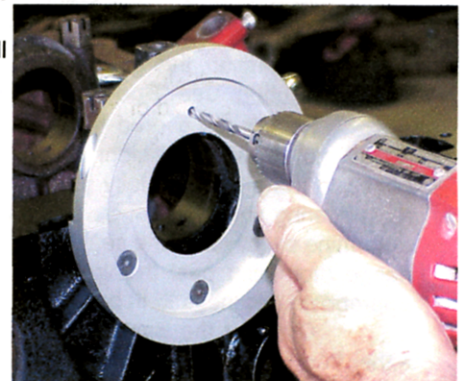

FIGURE 3
9) At this point it is necessary to drill a 3/16" hole through the web of the rear main cap to allow oil to drain from the cavity around the Seal into the trough in the main cap, down the tube and into the sump. Either drill directly through the 3/16" hole in the Retainer, (REFER TO FIGURE 3) or mark accordingly and drill the hole with a drill press or hand drill. Make certain that the drilled hole goes through the web into the chamber. Be sure to remove all drill chips. (If it is ever decided to no longer use the Seal Retainer, the hole in the main cap may be plugged with JB Weld or a similar product.